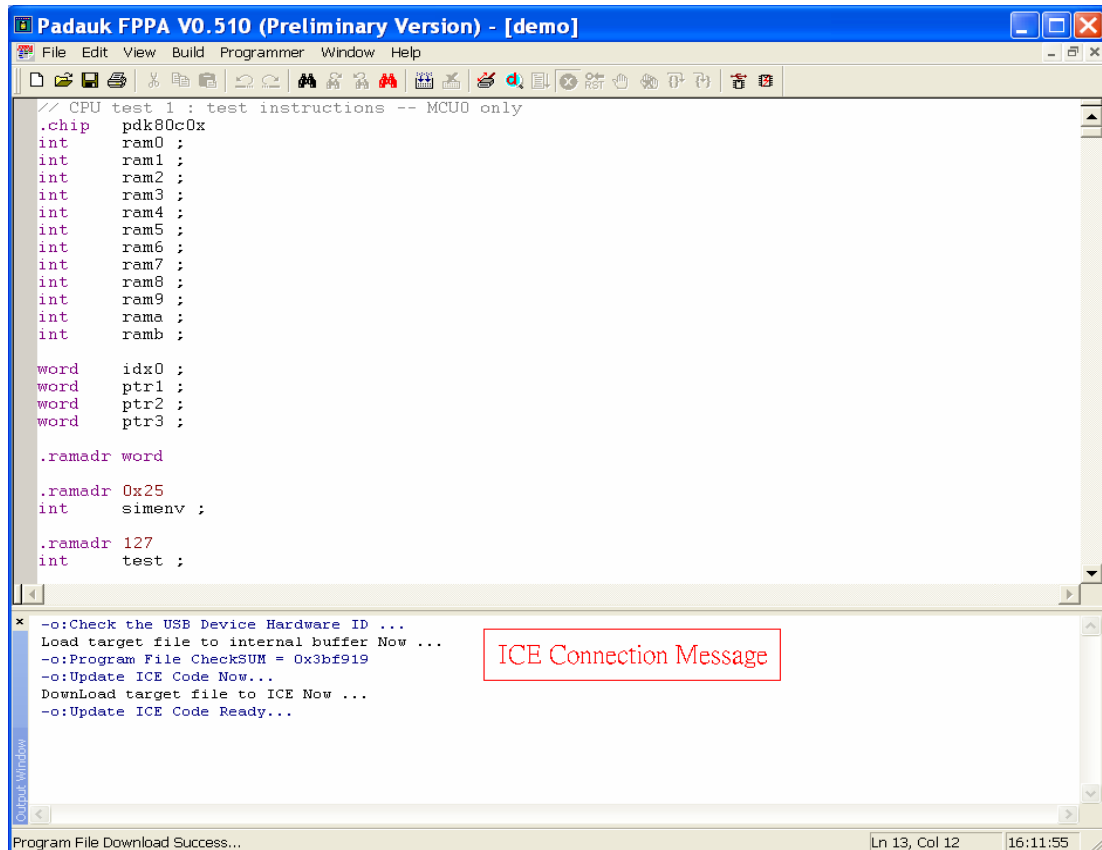

Fig.4-3 : Message after ICE Connection and Download
Step 2 : Before going to step 2 , you must make sure there is no error message in executing assembler and ICE board is connected to the USB port , and then click  to connect ICE board to USB port and download program machine code to ICE board or select command "Programmer -> Connect" from menu . If ICE connection is okay and program code is downloaded successfully , the message in the IDE window will be shown as Fig.4-3 .